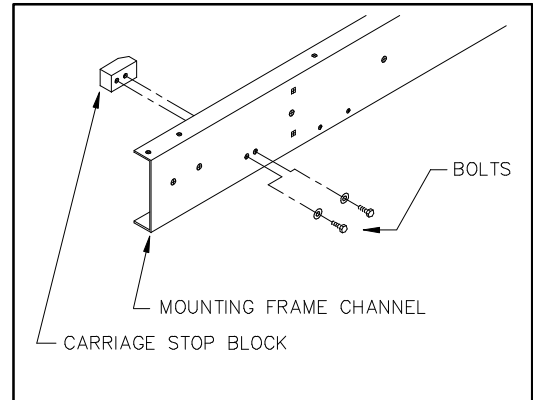

FIGURE 4-3: STOP BLOCK BOLTS
10. Refer to **Figure 4-3**. Remove the two bolts fastening each carriage stop block to the mounting frame channel. These bolts are accessible from under the vehicle.